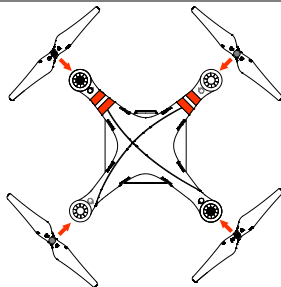

Figure 21
- (Figure 21) Spin grey marked propellers clockwise onto unmarked motors and black marked propellers anti-clockwise for black marked motors.